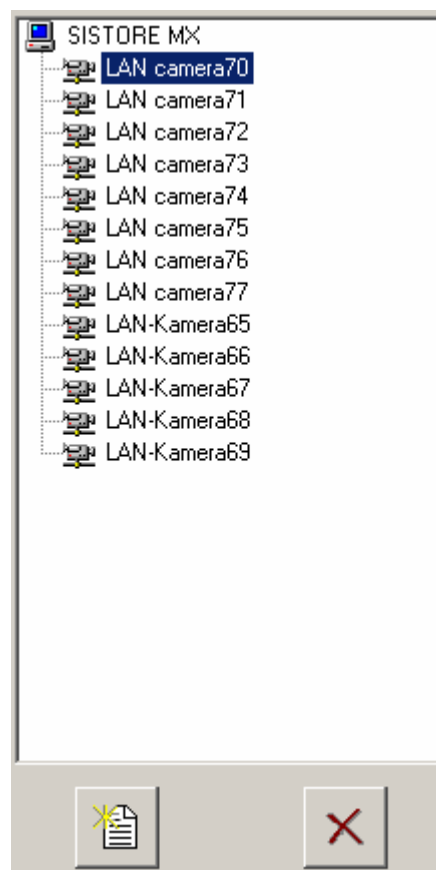

Fig. 55 Camera list on the "LAN cameras" tab
2. Select the camera you want to delete from the camera list (see Fig. 55).